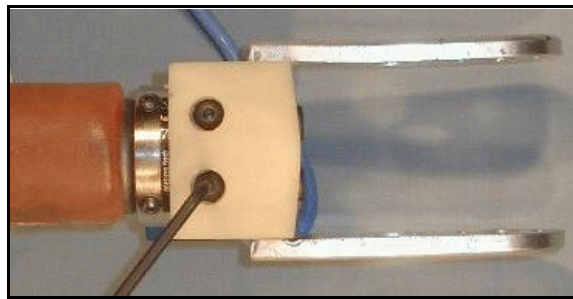

Figure 3.35 - Knee Bumper Attachment
32. Attach the Molded Knee Bumper (T2LLM025) to the front of the Knee Clevis Assembly using two #10-32 x 3/8" BHSCS {1/8}, as shown in **Figure 3.35**.